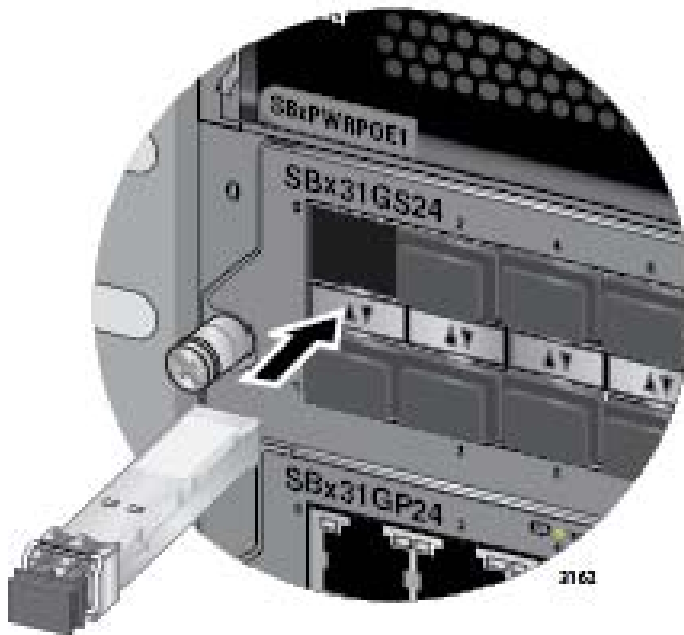

Figure 84. Inserting the SFP Transceiver in the AT-SBx31GS24 Line Card
- Slide the transceiver into the slot until it clicks into place, as shown in Figure 84.